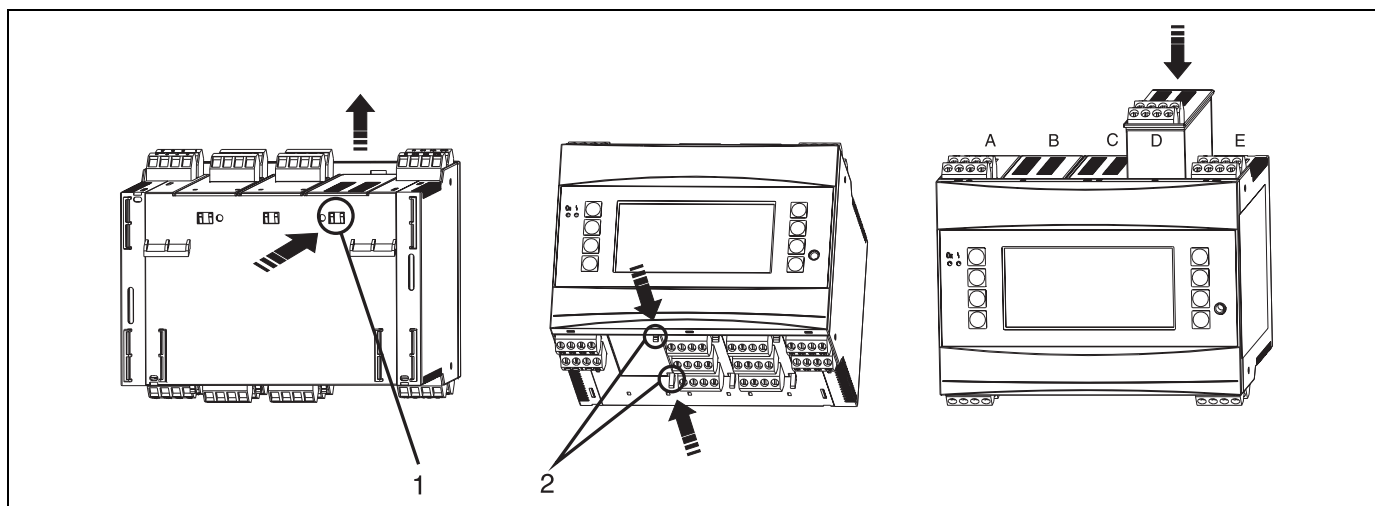

Fig. 4: Installing an extension card (example)
You can equip the device with various extension cards. A maximum of three slots are available in the device for this. The slots for the extension cards are marked with B, C and D (→ Abb. 4) on the device.
2. Remove the blanking cover from the slot (B, C or D) of the basic unit by pressing together the catches on the bottom of the Energy Manager (s. Abb. 4, item 2), while at the same time pressing in the catch on the rear of the housing (e.g. with a screwdriver) (s. Abb. 4, item 1). Now you can pull the blanking cover up out of the basic unit.
3. Insert the extension card into the basic unit from above. The extension card is not correctly installed until the catches on the bottom and rear of the device (s. Abb. 4, items 1 and 2) lock into place. Ensure that the input terminals of the extension card are on top and the connection terminals are pointing to the front, as with the basic unit.